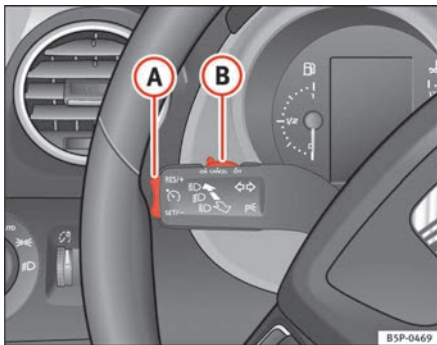

Fig. 149 Indicator and main beam headlight lever: switch and rocker switch for the cruise control
- Press the lower part **SET/-** of the rocker switch ⇒ fig. 149 **A** once briefly when you have reached the speed you wish to set.